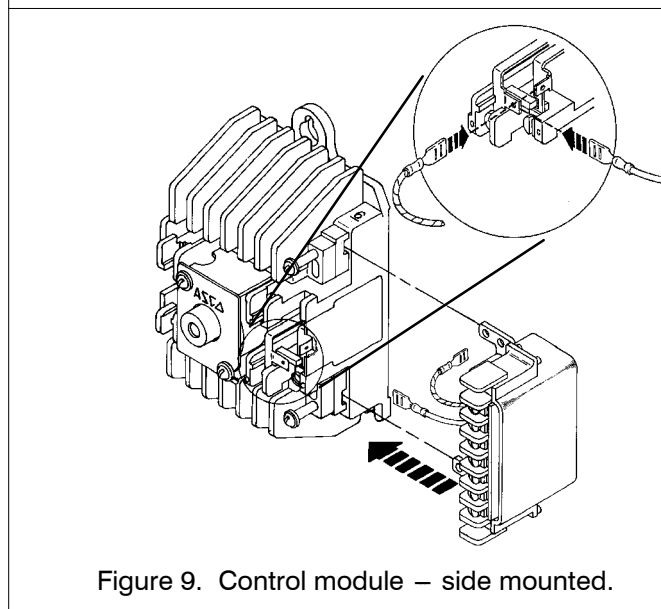

Figure 9. Control module – side mounted.
**Side Mounting.** For switches with more than 6 poles the module is mounted on the right side of the switch with the two contact block screws. Loosen the two existing screws on the right side of the upper and lower contact block assemblies and back out the screws to clear the cut outs in the contact blocks so that the module's mounting tabs are released. Remove the module and install the new module (tabs left). Retighten the two screws (through the module's mounting tabs) to 10 in-lbs. See Figure 9.